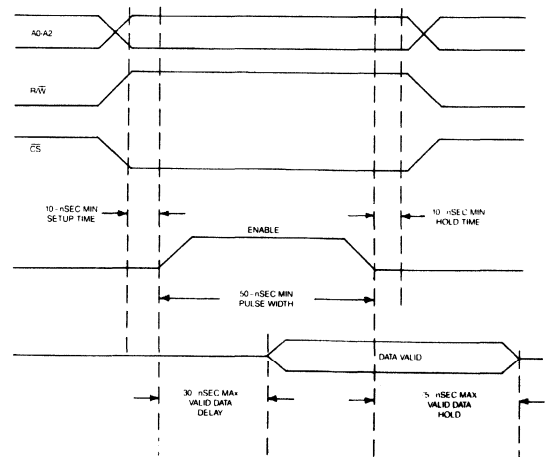

Figure 4. READ Command Timing
- Set the Chip Select line (CS) to a logical "0". The order in which these signals are applied is not important, as long as they conform to the timing constraints relating to the Enable (E) line shown in Figure 4.
- Activate the Enable (E) line. The Enable line performs the actual read operation. It is a positive pulse, at least 50 nsec wide. Valid data is present on the output bus 30 nsec maximum after the leading edge of Enable; the data bus returns to a high impedance state 25 nsec maximum after the trailing edge of the enable pulse.